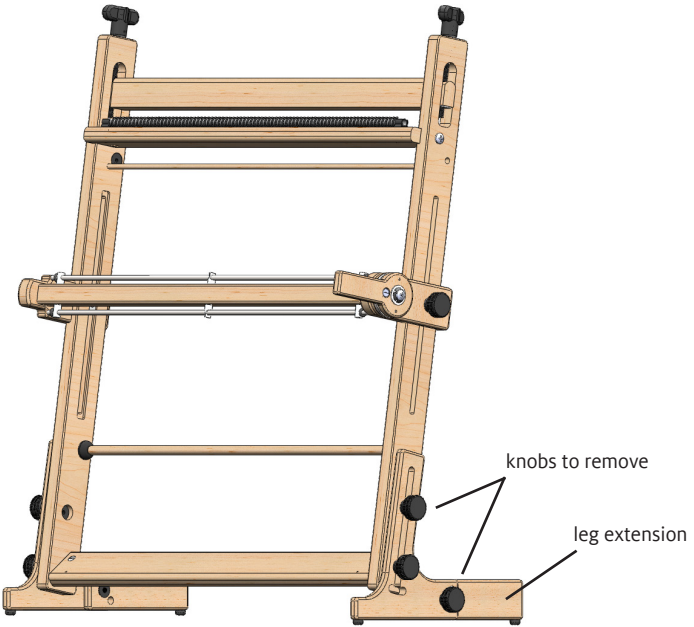
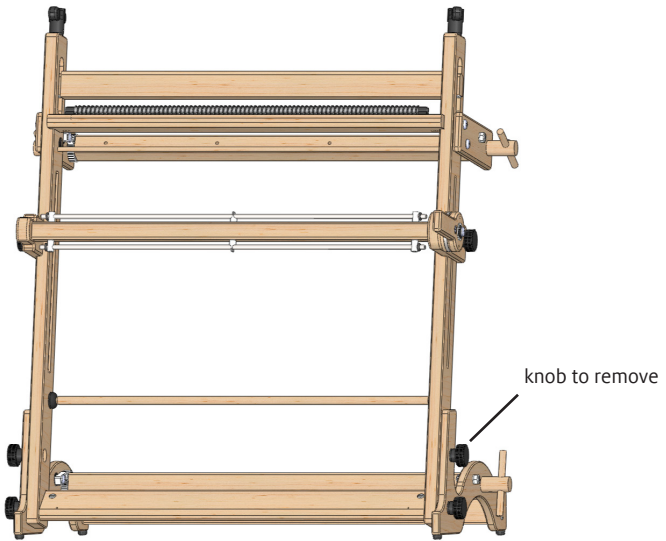

FIGURE 7: REMOVE LEG EXTENSIONS AND KNOBS FROM LOOM
FIGURE 8: REMOVE KNOBS FROM LOOM WITH BEAM KIT
7. (For looms with a beam kit, jump to the next step.) On looms without a beam kit, remove both leg extensions by unscrewing the knobs holding them to the loom legs (Figure 7). Store the knobs and leg extensions.
8. Remove the uppermost knobs holding the loom legs (Figure 7) or bases to the left and right loom uprights (Figure 8). You can store the knobs, T-nut slides, and 3/8" washers.